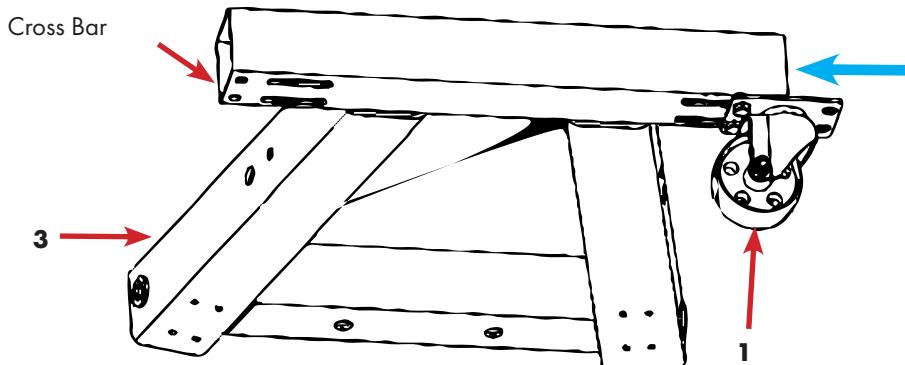

fig.5
- Slide the rollers into a position where the holes in the rollers align with the holes in the πcarrier, fig.5 next page.
- Tighten all 4 nuts firmly, fig. 5.